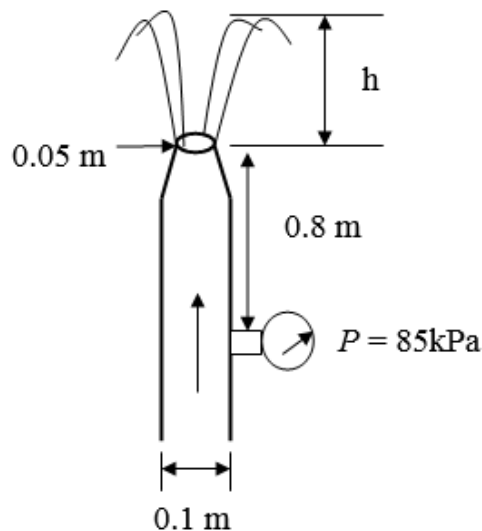

Figure 1
- 1- Water flows without viscous effects from the nozzle shown in figure 1. Determine the flow rate and the height, h , to which the water can flow.